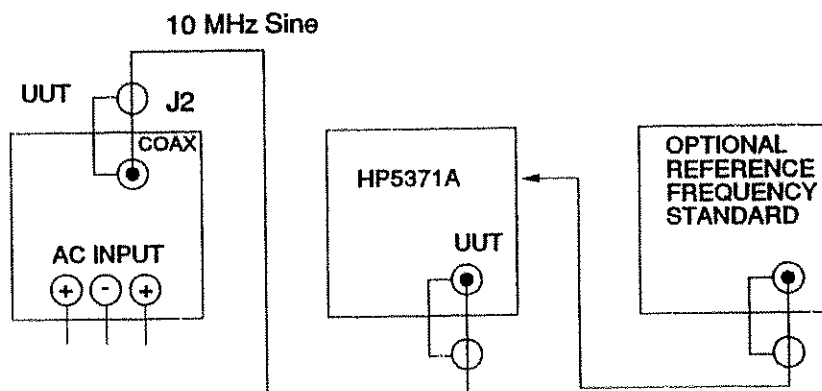

Figure 4-1. Operational Frequency Accuracy Test Setup.
- a) Connect the equipment as shown in Figure 4-1.
- a) With the equipment connected as shown in Figure 4-1, and the required stabilization time allowed, (refer to NOTE following 4.7b), begin the test.